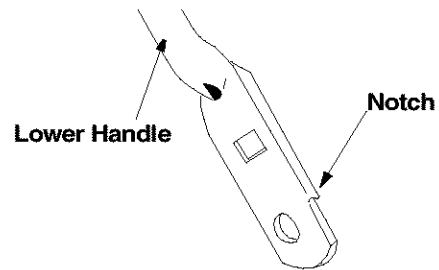

Figure 12
- Turn lower handle around so the notch on the bottom of the lower handle is facing forward. See Figure 12